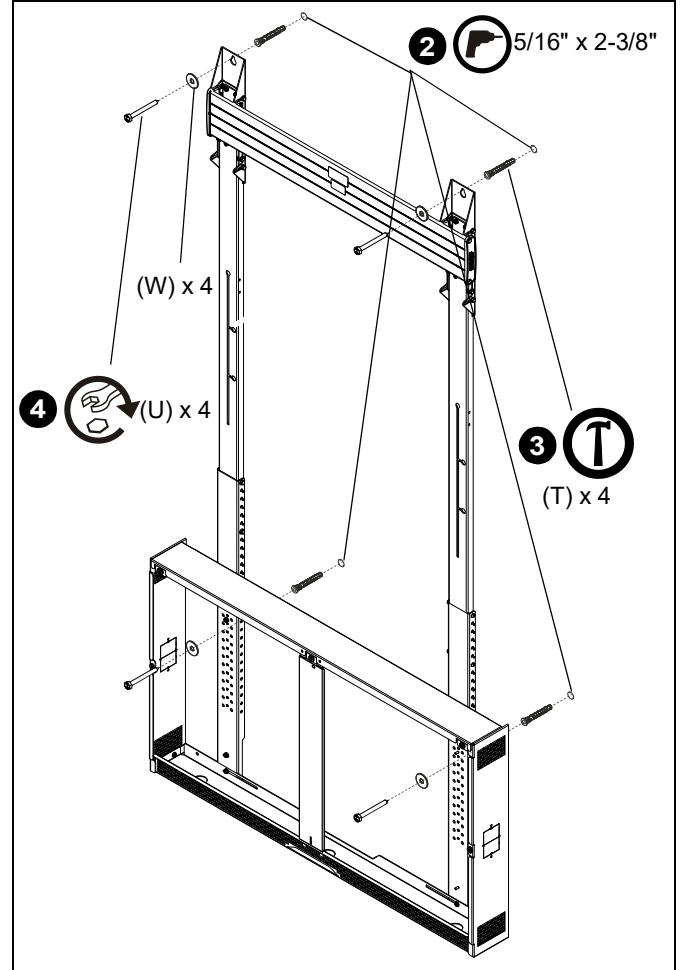

Figure 16
1. Mark hole locations at each mounting location based on locations of mounting brackets (Q). Use a level to ensure of an even mount. (See Figure 16)
2. Drill 5/16" holes with a depth of 2 3/8" on marked hole locations. (See Figure 16)
3. Use hammer to install four concrete anchors (T) into drilled holes. (See Figure 16)
4. Use four 1/4 x 2 1/2" hex head lag screws (V) and four 1/4" washers (W) to secure mounting brackets (Q) and bottom uprights (F/G) to wall. (See Figure 16)